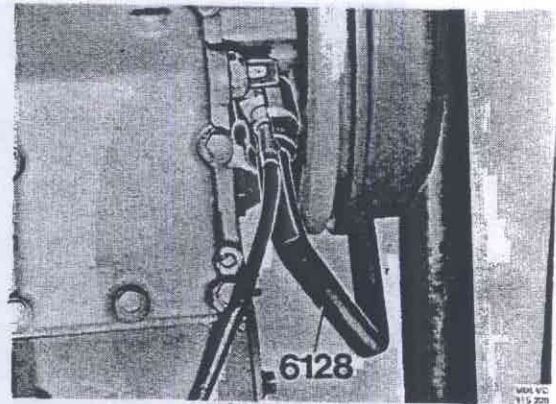

Fig. 43-213. Fitting speedometer wire
11. Screw tight the speedometer wire with 6128, Fig. 43-213.